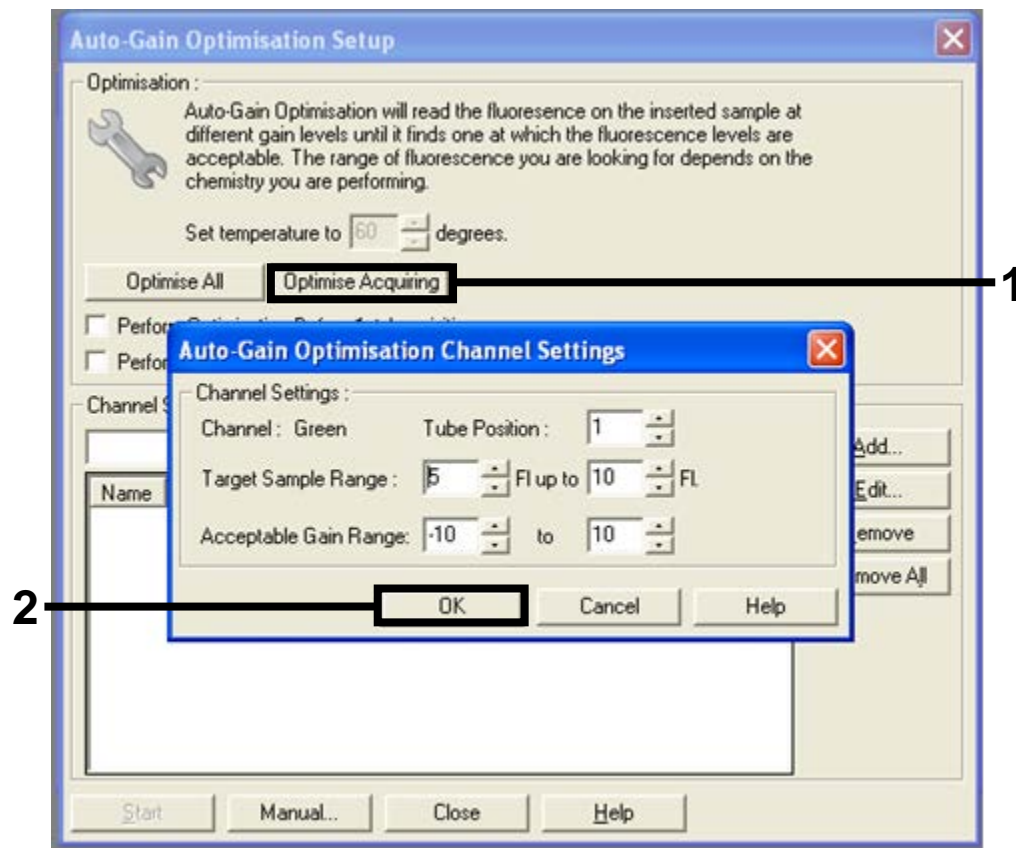

Figure 31. Auto-gain optimization for the Green channel. (1 = “Optimise Acquiring” button, 2 = “OK” button).
13. Click the “Optimise Acquiring” button. Channel settings are displayed for each channel. Accept these default values by clicking “OK” for both channels (Figure 31).